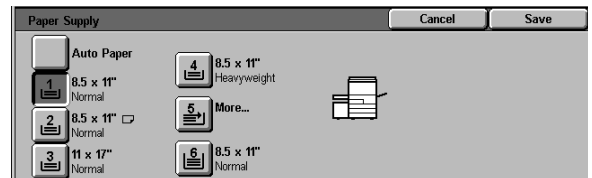

Figure 24: Paper Supply screen
- Touch the **More...** button to display the Paper Supply screen, Figure 24, with the paper tray options.